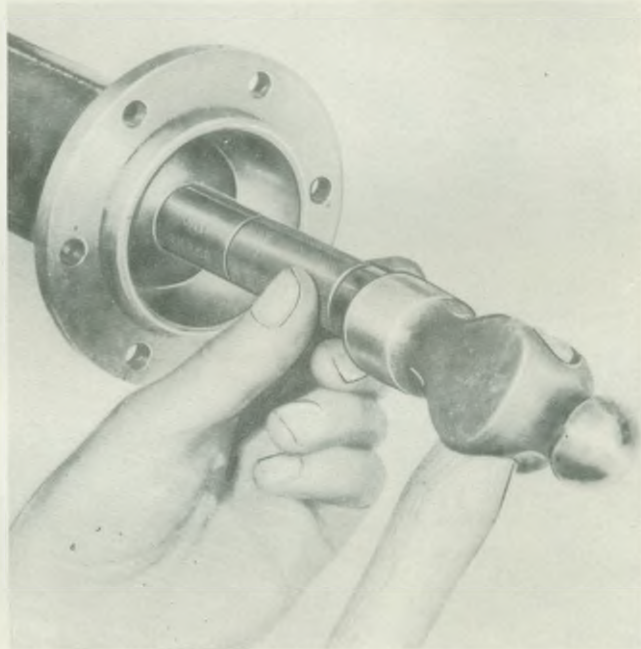

Fig. 9. Fitting oil seal in axle sleeve—Tool No. 20S-73
5. Examine inner oil seal, replacing if necessary, employing installing tool as shown in Fig. 9, where the necessity for its renewal arises. (This is recommended in all cases of an axle overhaul.)